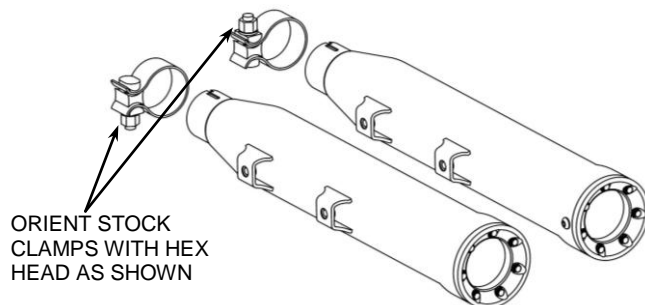

FIGURE 1
4. Position the stock clamps with hex head as shown in **Figure 1** and slide them onto the slip-on mufflers.